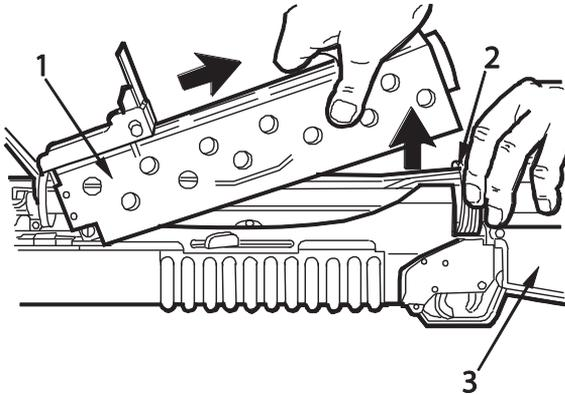

Figure 3. Handguard Leaf Sight-Disassembly.
3. Pull back slip ring (Figure 3, Item 2). Lift up on handguard (Figure 3, Item 1) and pull to the rear to remove from host weapon (Figure 3, Item 3).